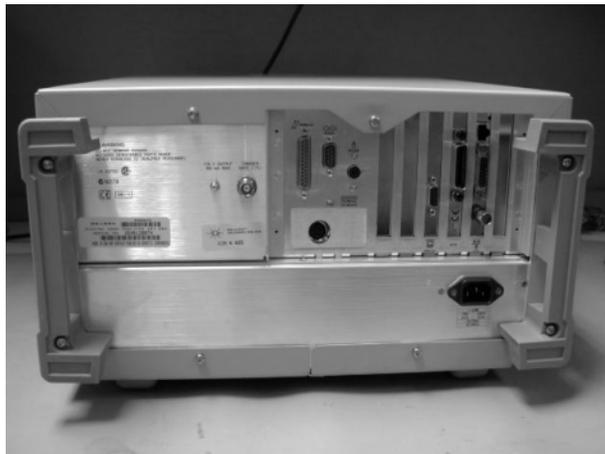

Figure 7-1. Accessing the Back of the Mainframe
- 2 Position the mainframe so that you have access to the back of the instrument, as shown in Figure 7-1.